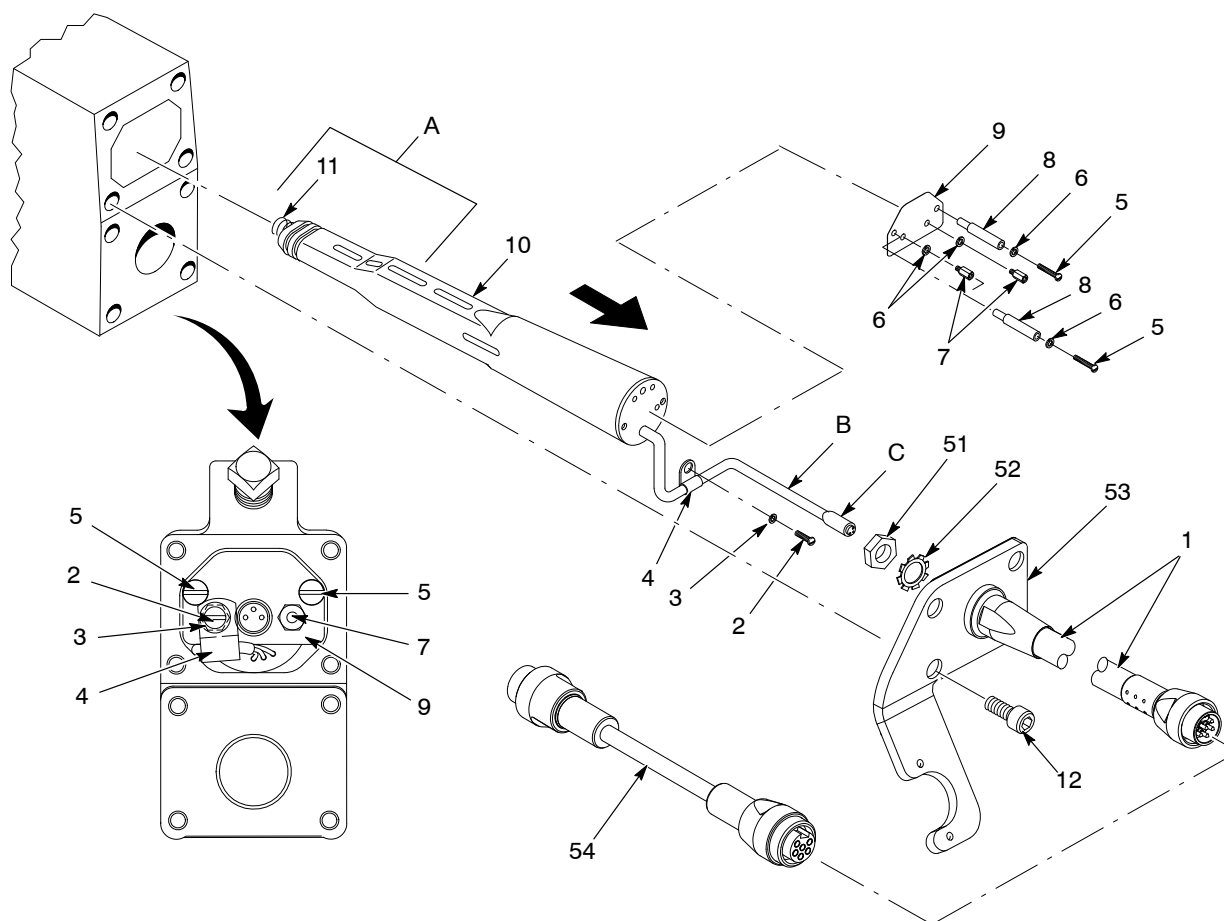

Figure 7-6 Multiplier and Gun Cable Replacement
3. See Figure 7-6. Remove the two screws securing the fluid hose to the bracket (53). Remove the fluid hose from the bracket.
4. Remove the four screws (12) securing the bracket to the piston block body.
5. Unplug the gun cable (1) from the multiplier connector (C).
6. Remove the two upper screws (5), spacers (8), and lock washers (6) located inside the piston block body cavity.
**CAUTION:** Do not use the pigtail (B) to pull out the multiplier.
7. Install one of the upper screws into the standoff (7) and use it to pull the multiplier out of the spray gun.
See Figure 7-6.